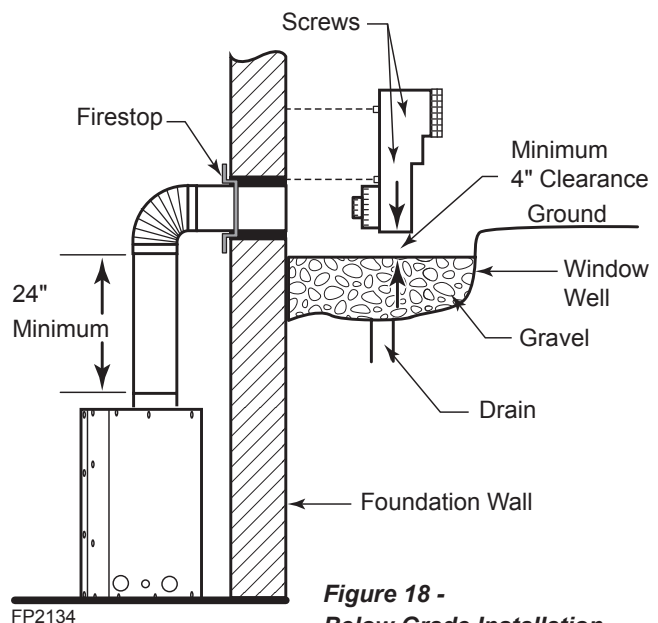

**Figure 18 -
2. Remove soil to a depth of approximately 16" below base of snorkel. Install drain pipe. Install window well (not supplied). Refill hole with 12" of coarse gravel leaving a clearance of approximately 4" below snorkel. *Figure 18*
7. Level the soil so as to maintain a 4" clearance below snorkel. *Figure 18*